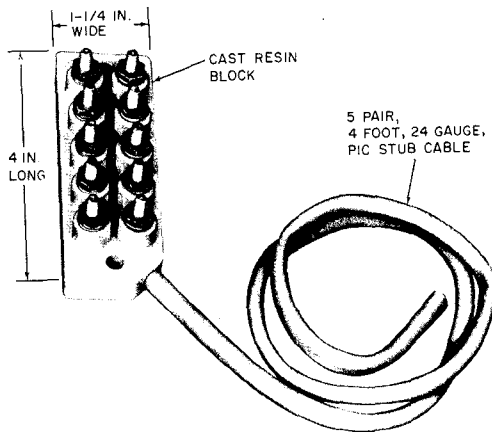

Fig. 2—9A1-5 Terminal Block
- (a) **9A1-5 Terminal Block**(Fig. 2)—a 5-pair nonprotected terminal block equipped with a 4-foot plastic insulated 24-gauge stub cable.